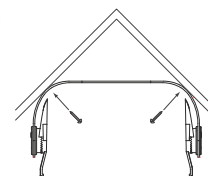

FIGURE 5:
- If the installation requires that the speaker be mounted in a corner, attach the bracket with hardware through the slots in the angled corners (see figure 5).